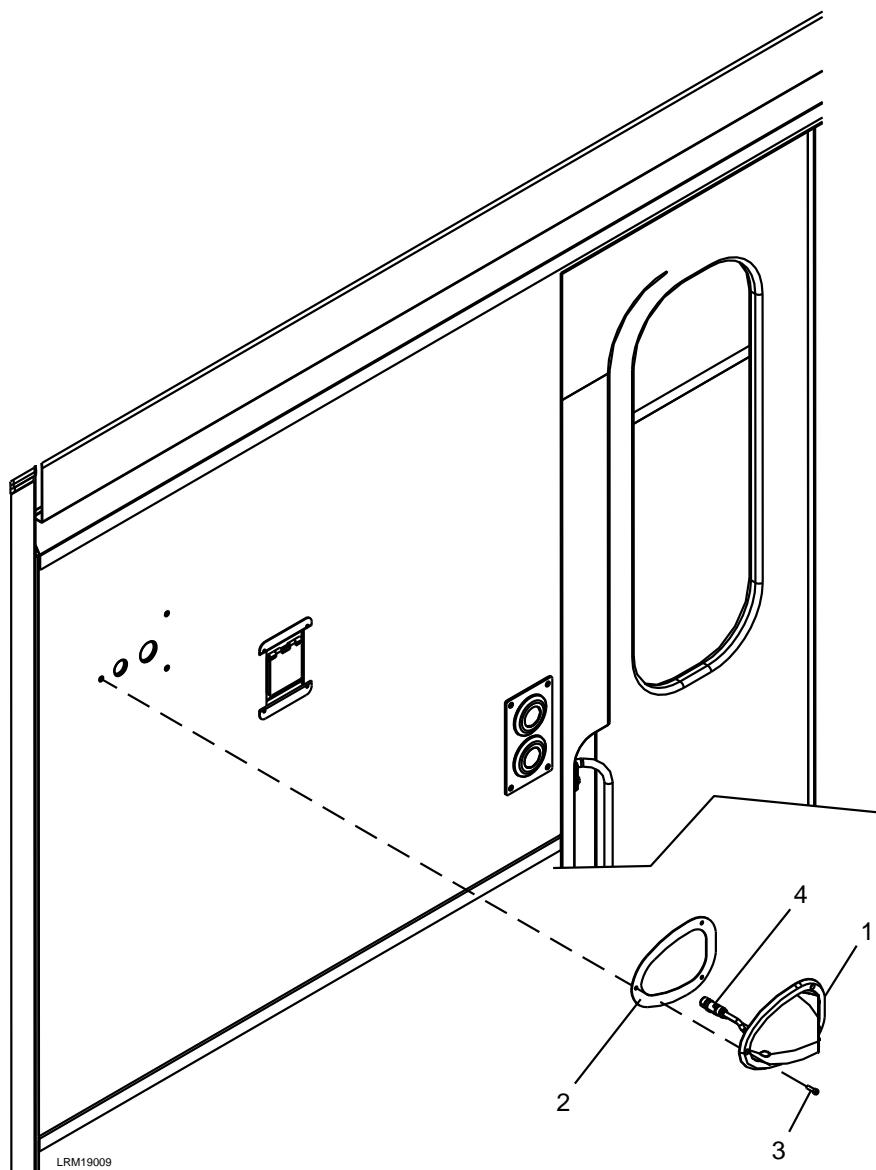

Figure 7-7: Rear View Camera
1. Remove the three M6 x 20 screws (3). See Figure 7-7.